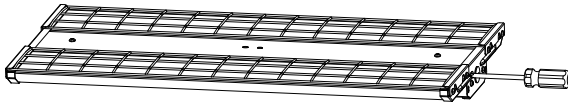

Figure8
Step 1: Mount the wire guard on the fixture with screws (figure 8)